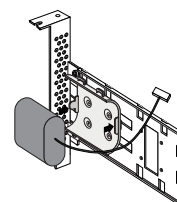

Figure 2
- 4 Insert the supercapacitor module into the mounting clip. The supercapacitor module snaps securely into place between the large and small friction clips, as shown in Figure 2. Be sure to orient the supercapacitor module such that the connecting cable faces the rear of the mounting plate.